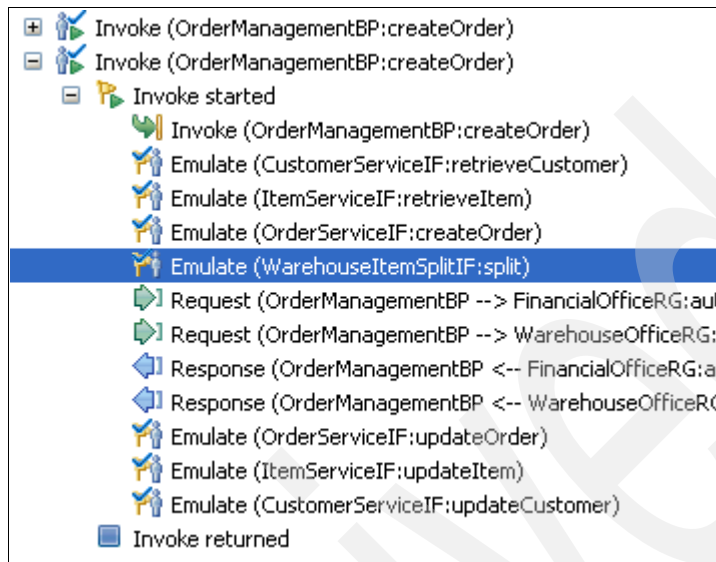

Figure 3-218 Warehouse split execution steps
4. After you run the scenario, you have completed the sequence shown in Figure 3-218.